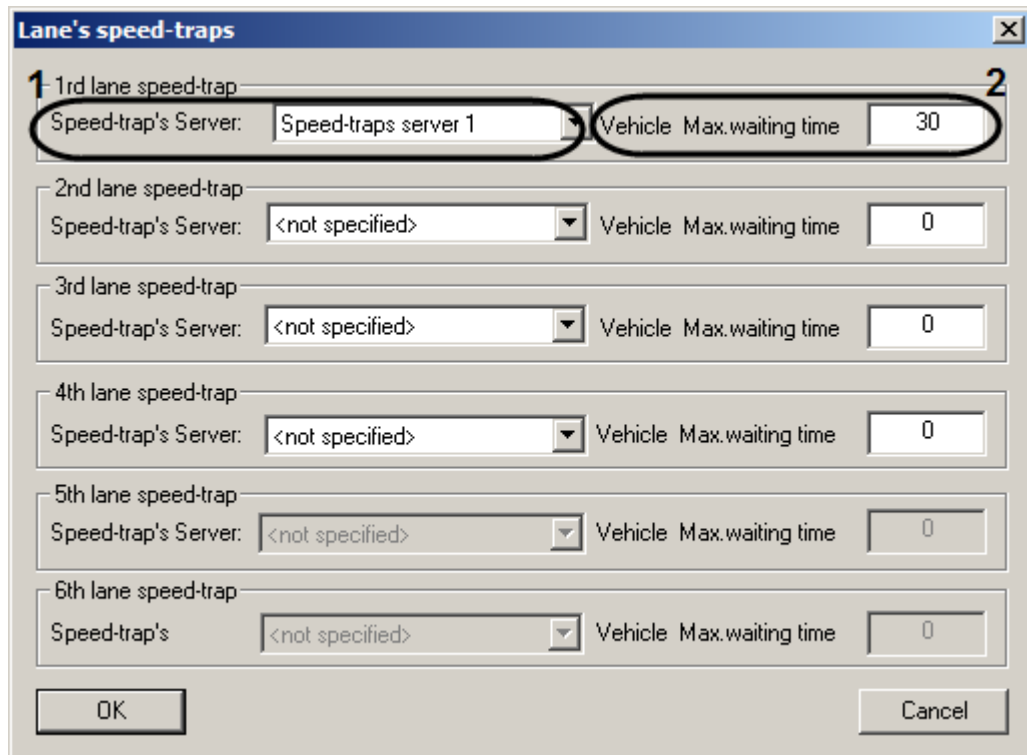

Fig. 7.4-15 Setting up the joint operation of Traffic Detector and Radar
4. The Speed-traps by lane window will open (see Fig. 7.4-15).